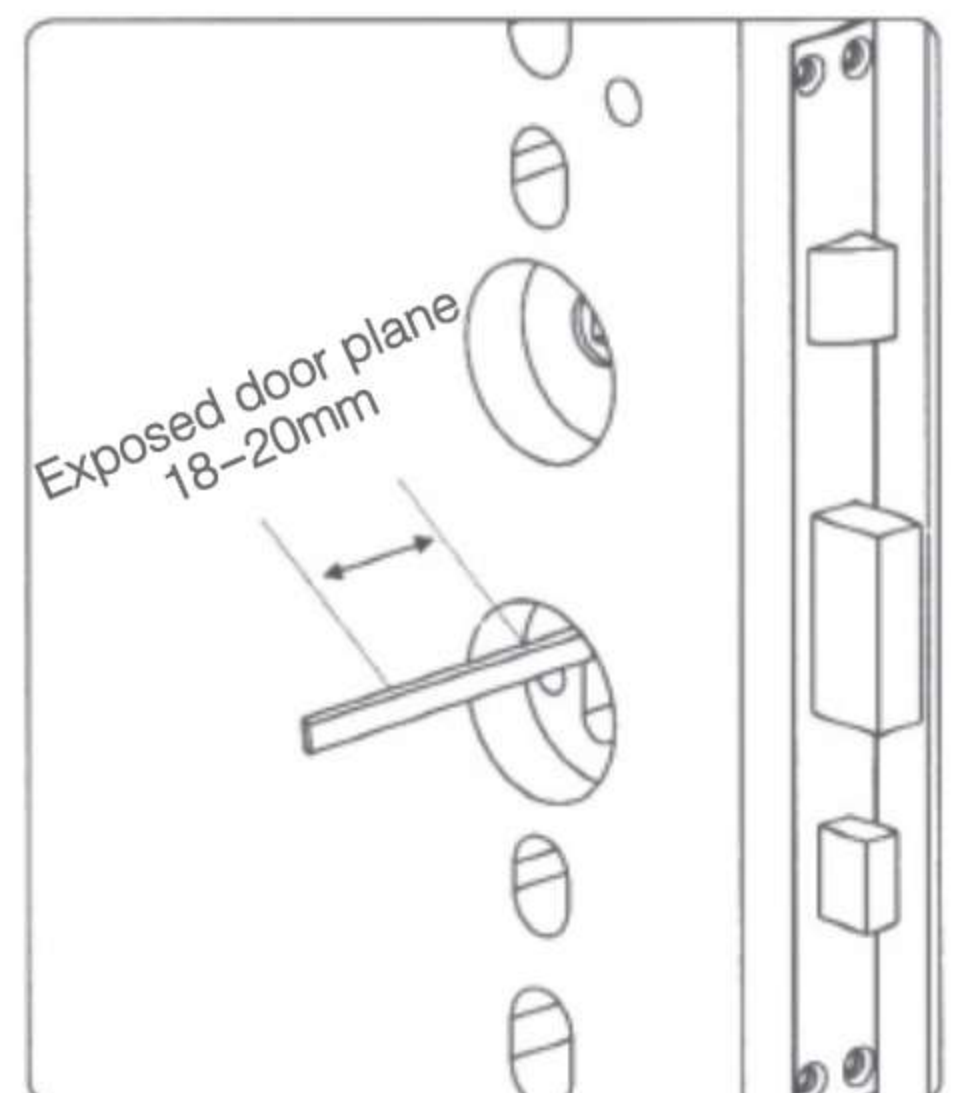

Fig.2
2. install the lock cylinder, fix the lock cylinder with the lock cylinder fixing screw, ensure that the copper bar of the lock cylinder rotating shaft faces the room, and the length is 18–20mm of the exposed door surface (as shown in Fig. 2, the lock cylinder must be installed and then the copper bar should be cut)